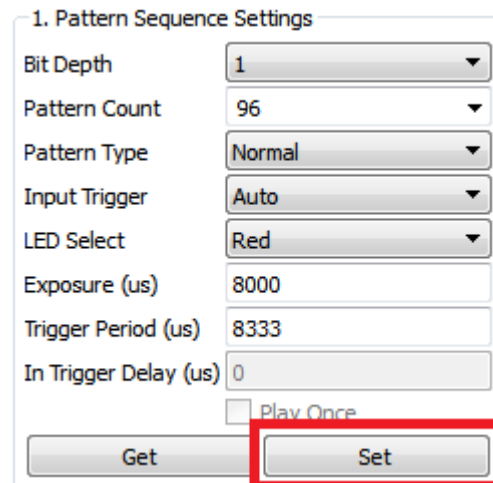

Figure 2-38. DLP LightCrafter GUI Pattern Sequence Settings Set Button
- Click the Set button as shown in Figure 2-38.